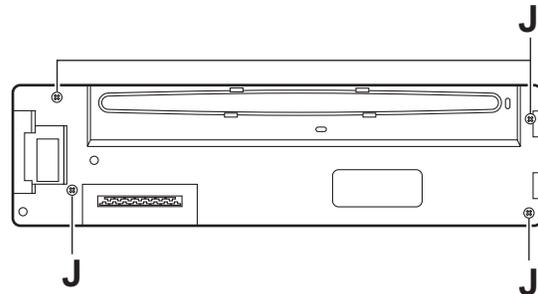

Fig.8
(See Figs.8 to 10)**
- (1) Remove the four screws **J** on the back side of the front panel assembly. (See Fig.8.)